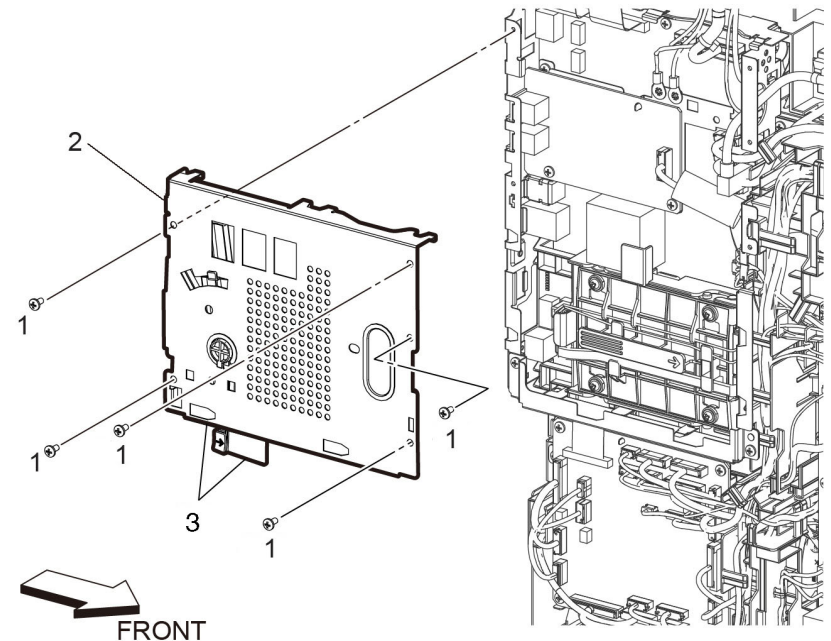

Figure 1 ESS top plate removal
2. Remove five screws (1), then remove the ESS top plate (2) with the WiFi link (3), Figure 1.